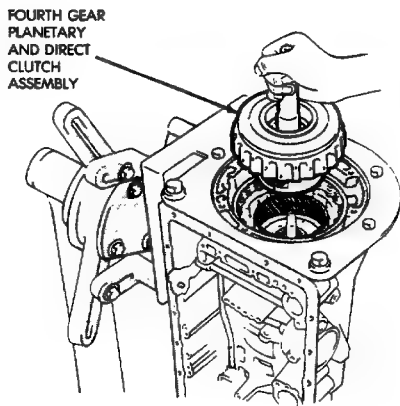

Fig. 17 Removing Fourth Gear Planetary And Direct Clutch Assembly
(25) Remove fourth gear overdrive planetary gear and overdrive direct clutch assembly (Fig. 17).